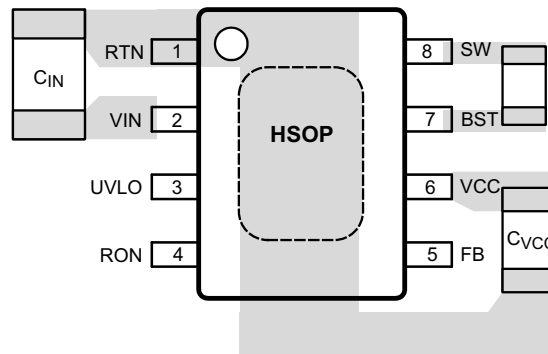

Figure 19. Placement of Bypass Capacitors
1.  $C_{IN}$ : The loop consisting of input capacitor ( $C_{IN}$ ),  $V_{IN}$  pin, and RTN pin carries switching currents. Therefore, place the input capacitor close to the IC, directly across  $V_{IN}$  and RTN pins, and the connections to these two pins should be direct to minimize the loop area. In general it is not possible to accommodate all of input capacitance near the IC. A good practice is to use a 0.1- $\mu$ F or 0.47- $\mu$ F capacitor directly across the  $V_{IN}$  and RTN pins close to the IC, and the remaining bulk capacitor as close as possible (see Figure 19).
2.  $C_{VCC}$  and  $C_{BST}$ : The  $V_{CC}$  and bootstrap (BST) bypass capacitors supply switching currents to the high and low-side gate drivers. Place these two capacitors as close to the IC as possible, and the connecting trace lengths and loop area should be minimized (see Figure 19).